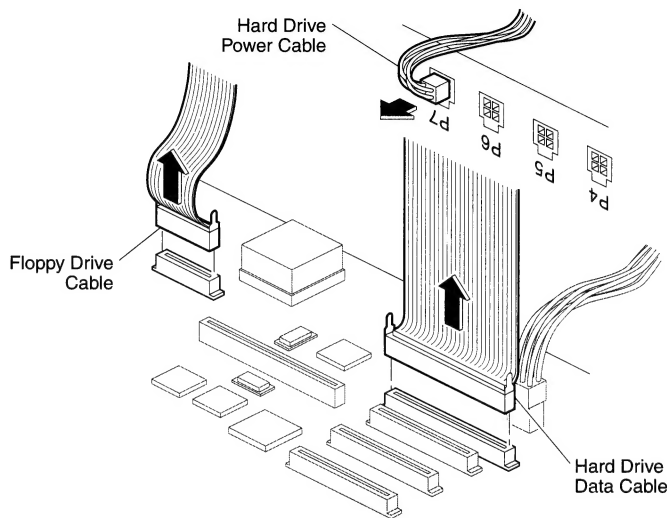

Figure 4 Disconnecting the Drive Cables
2. Disconnect the floppy drive and hard drive data cables from the logic board and the hard drive power cable from the power supply (Figure 4).